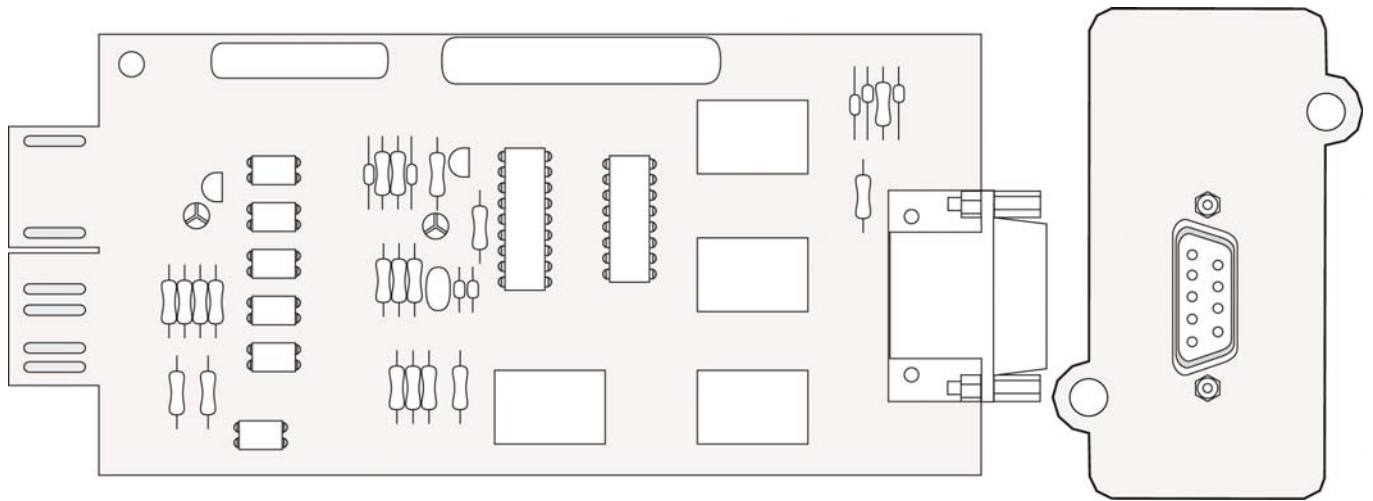

Fig. 1
- Fig 1: Top view of the Relay Card.